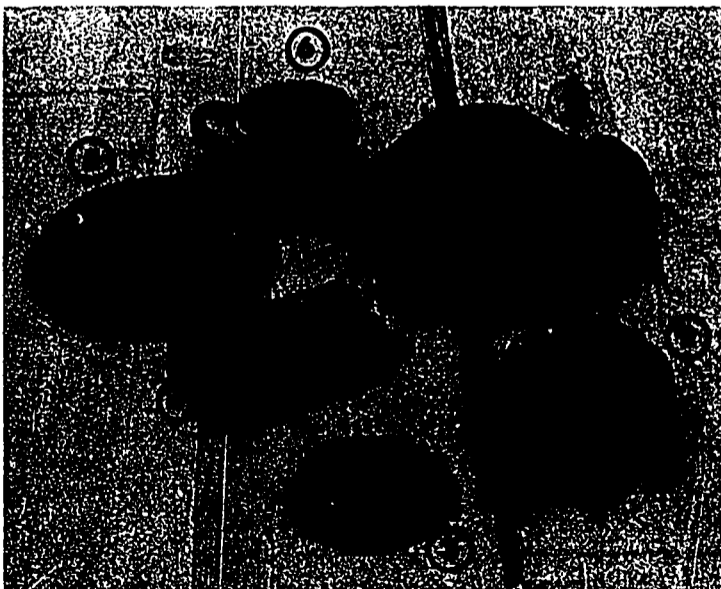

Fig. 2-1. Clay Products
- As a group decide which product shown in Fig. 2-1 will be manufactured.
- Slab Process*—Products 1, 2, 3, 4, and 5 in Fig. 2-1 can be made by rolling, cutting, and assembling *slabs* of clay.
- Coil Process*—Products 2 and 6 in Fig. 2-1 can be made by rolling, coiling, and assembling *coils* of clay.